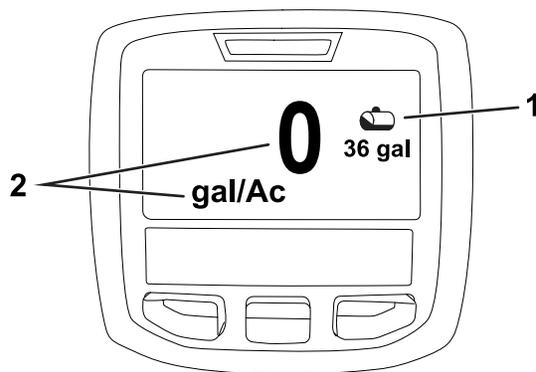

Figure 20
2. Press the right selection button to navigate to the spray tank volume screen (Figure 20).